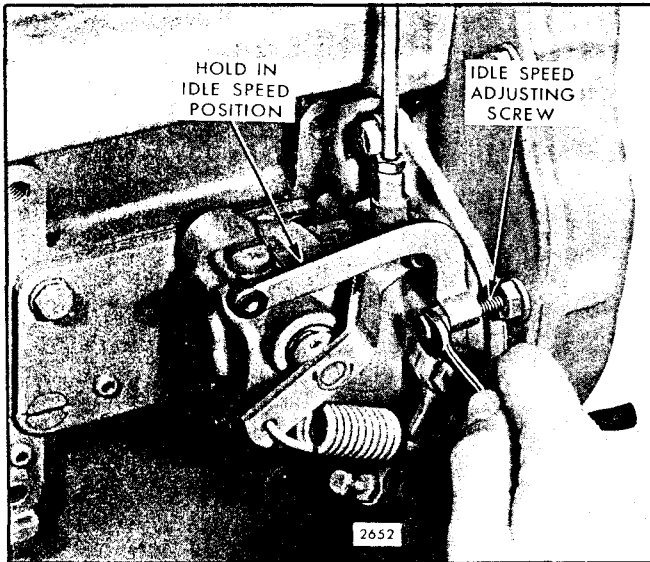

Fig. 3 - Adjusting Idle Speed
2. Start the engine and adjust the idle speed adjusting screw (Fig. 3) to obtain the desired idle speed.